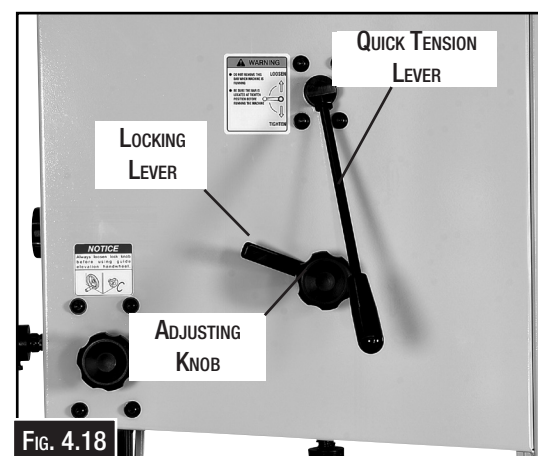

FIG. 4.18
6. Loosen the lock lever (Fig. 4.18) so that the blade tracking knob can rotate.
7. Manually rotate the upper wheel, taking care not to touch the blade. At the same time turn the adjusting knob (Fig. 4.18) clockwise or anti-clockwise until the saw blade tracks centred on the rubber tyre.